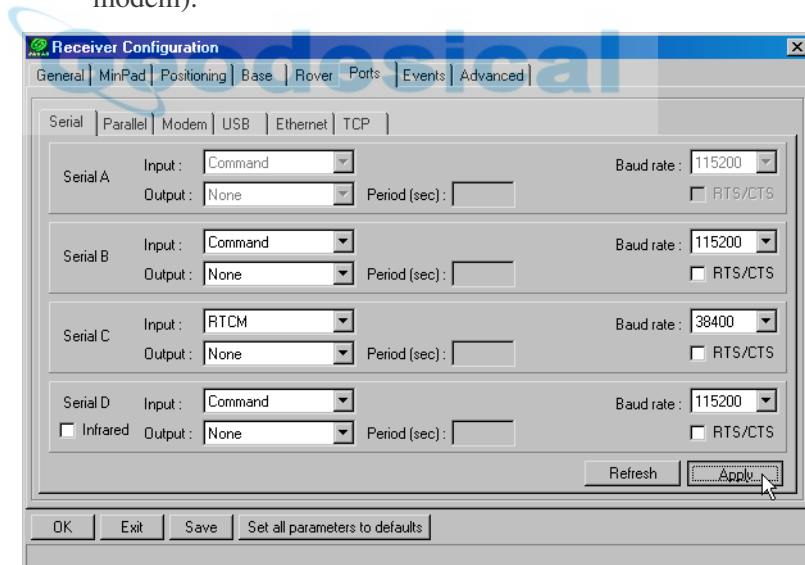

Figure 3-14. Rover Configuration – Ports
6. Select the **Ports** tab and set the following parameters for Serial C (Figure 3-14):